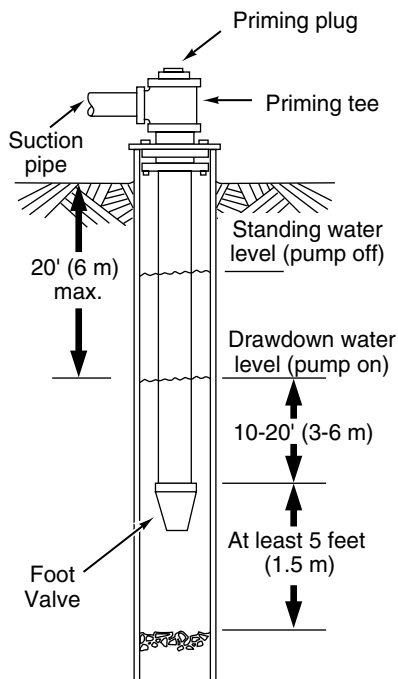
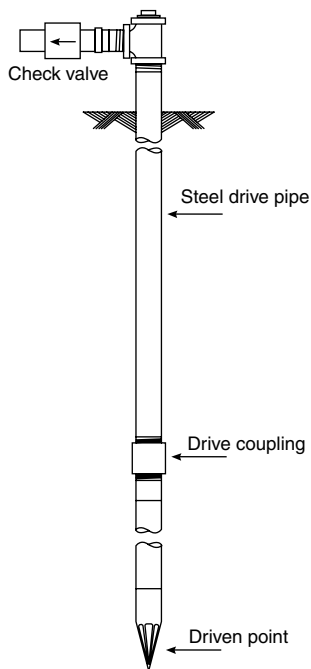

Figure 1: Cased/Dug Well Installation
Figure 2: Driven Point Installation
5. When using a foot valve, a priming tee and plug as shown in Figure 1 are recommended.
1. Connect the suction pipe to the drive point as illustrated in Figure 2. Keep horizontal pipe run as short as possible. Use PTFE pipe thread sealant tape on male pipe threads. Multiple well points may be necessary to provide sufficient water to pump.
2. To aid priming on well point installations, install a line check valve as shown in Figure 2. Be sure check valve flow arrow points toward pump.
**NOTICE:** For long horizontal pipe runs, install a priming tee between check valve and well head as shown in Figure 1. For driven point installations, install a check valve as shown in Figure 2. Be sure check valve flow arrow points **toward** pump.